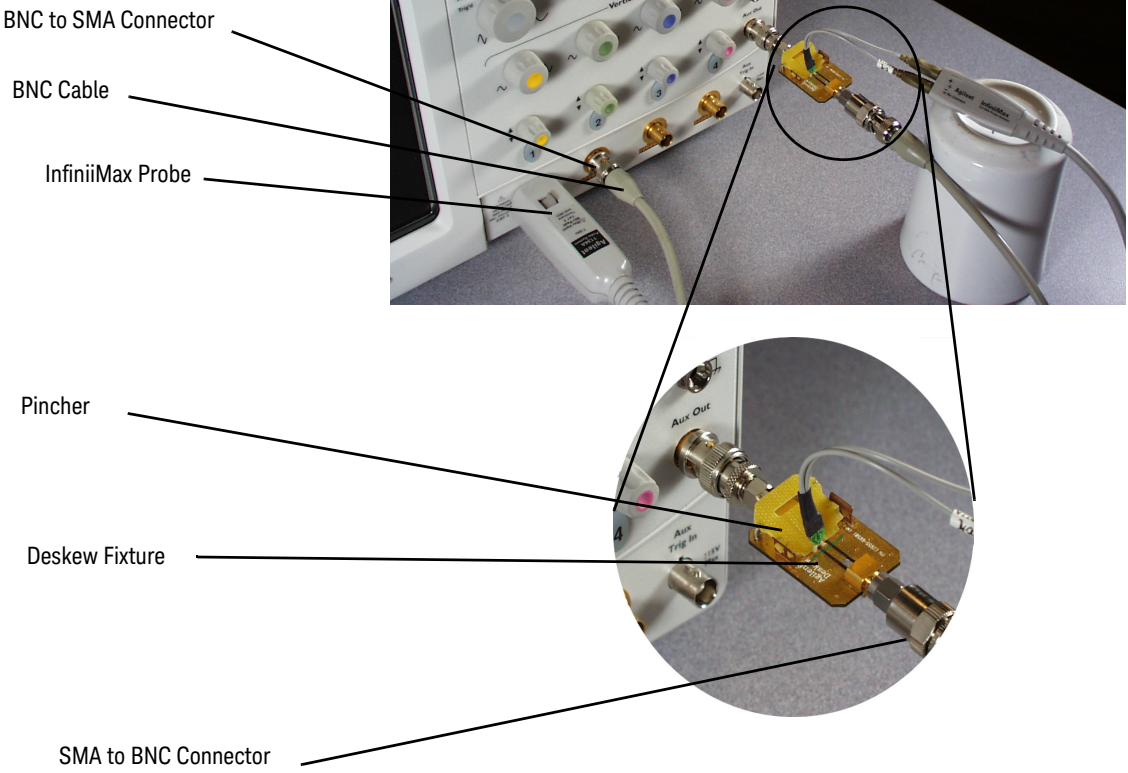

Figure 52 Connecting the Probe
- 1 As shown in **Figure 52** on page 87, connect BNC (male) to SMA (male) adapter to the deskew fixture on the connector closest to the yellow pincher.